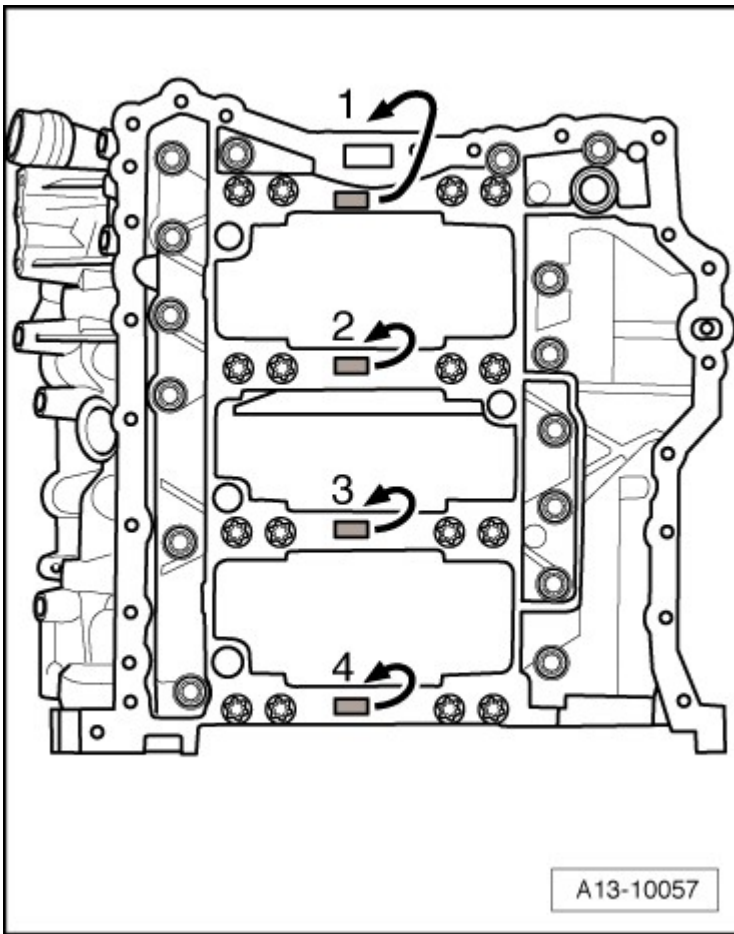

Fig. 9: Identifying Crankshaft Bearing Shells
- Insert new bearing shells for cylinder block with proper color marking, refer to **Fig. 9**